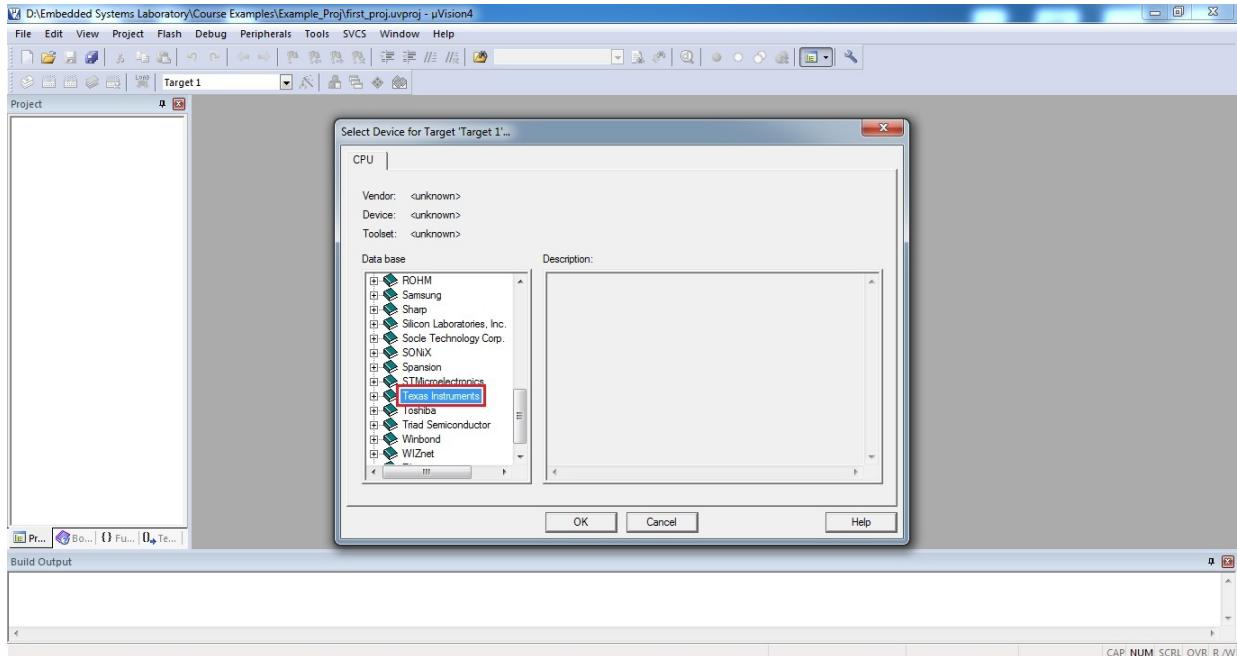

Figure 1.10: Select the manufacturer of your microcontroller
4. To select a microcontroller double click on *Texas Instruments* and select **TM4C123GH6PM** or **TM4C1233H6PM** depending upon your microcontroller. Click *OK*. (See Figure 1.10)